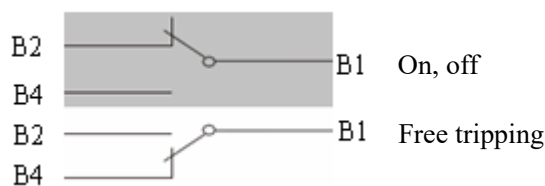

Fig. 3
11.2 Rated value of the alarm contact (see Table 9, Fig. 3)